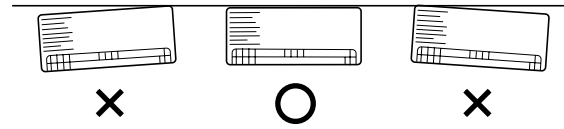

Fig. 3-140
- (2) Check with a tape measure or carpenter's level. This is important so that the unit is correctly installed. (Fig. 3-140)
- (3) Make sure the panel is flush against the wall. Any space between the wall and unit will cause noise and vibration.